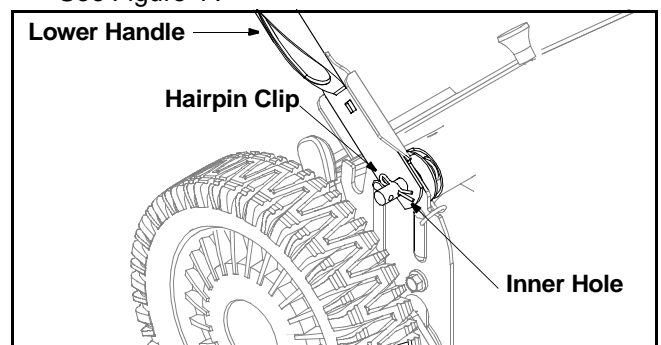

Figure 4
- Using a pair of pliers, insert the hairpin clip into the inner hole in the weld pin. Repeat on the other side. See Figure 4 .